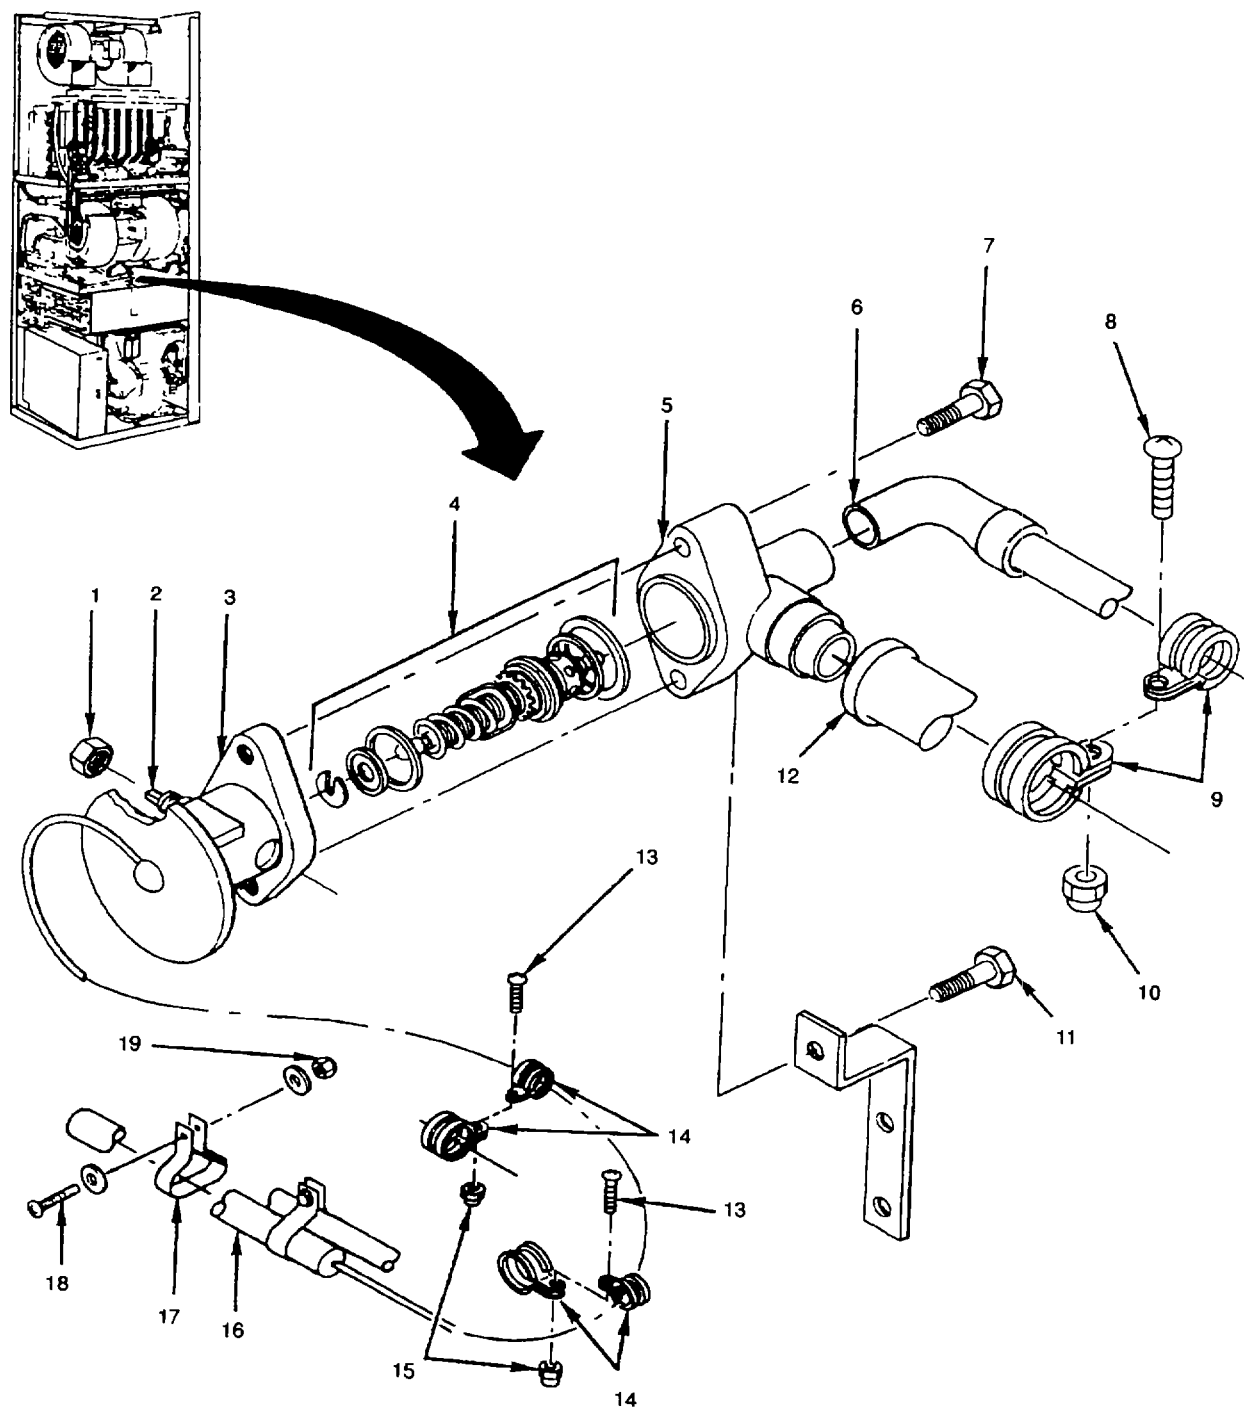

Figure 5-22. Expansion Valve (V6) (Liquid Quench)
- a. Inspect for evidence of leaks, kinked, or otherwise damaged capillary line, and loose or missing mounting hardware (see fig. 5-22)